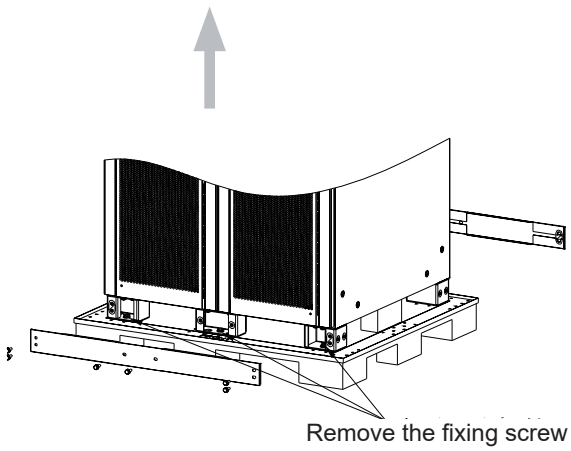

Figure 4-4: Remove the fixing screw
4. Remove the front and rear foot baffles at the bottom and save them, remove the anchor screws, and then put the foot baffles back (Figure 4-4).